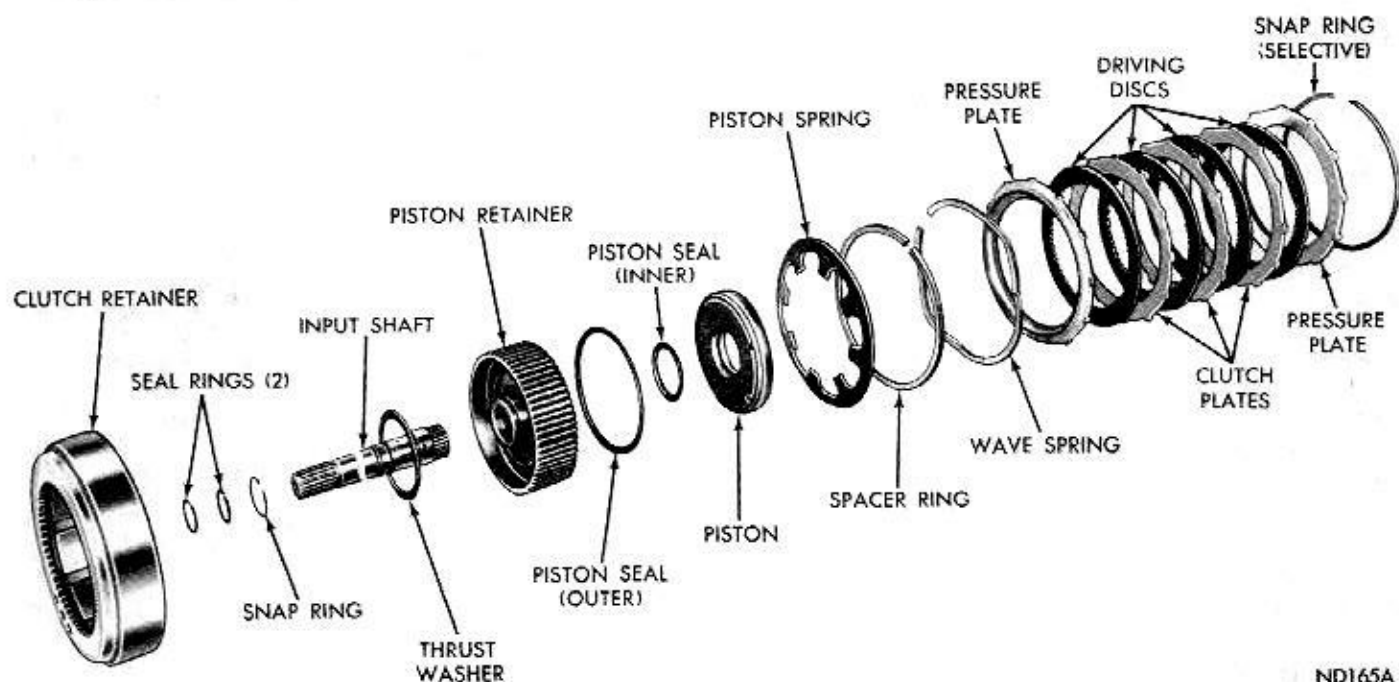

Fig. 68—Rear Clutch Disassembled (A-727)
Figure 68 shows a disassembled view of the rear
Inspect interlocking seal rings (Fig. 68) on input shaft for wear or broken locks, make sure they turn freely in the grooves. Do not remove rings unless conditions warrant. Inspect bushing in input shaft for wear or scores. Inspect rear clutch to front clutch thrust washer for wear. Washer thickness should be .061 to .063 inch, replace if necessary.
- (2) Lubricate and install inner and outer seal rings on clutch piston. Make sure lip of seals face toward head of clutch retainer, and are properly seated in piston grooves (Fig. 68).
- (3) Place piston assembly in retainer and, with a twisting motion, seat piston in bottom of the retainer.
- (4) Position clutch retainer over piston retainer splines and support the assembly so clutch retainer remains in place.